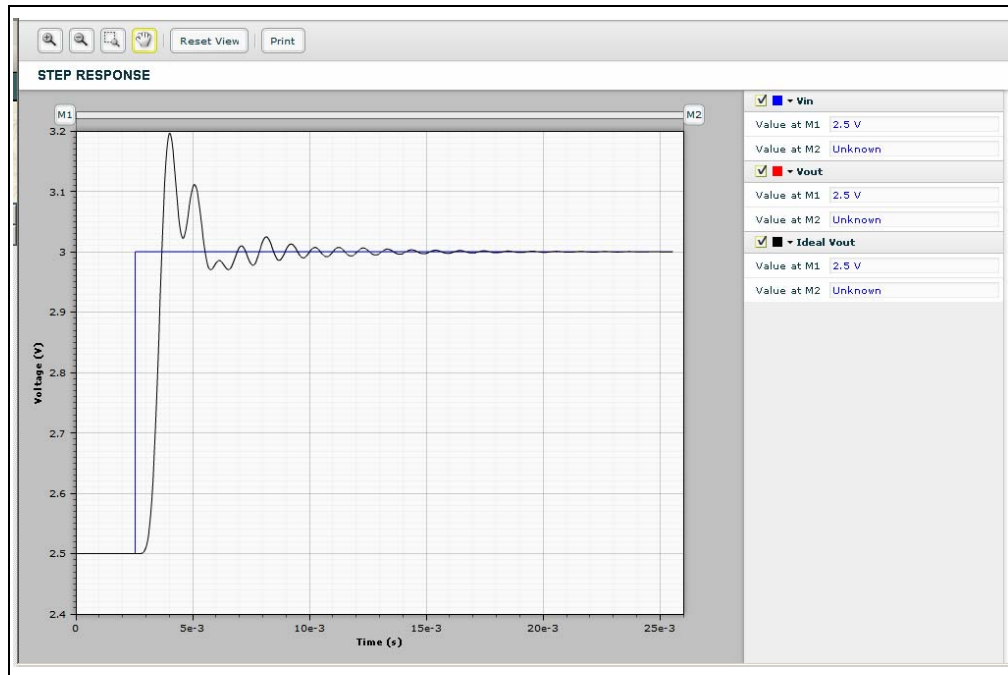

FIGURE B-9: Step Response with Chebyshev Approximation.
- More overshoot and ringing in the step response than Butterworth and Bessel (Figure B-9)
The step response of the 6th order Low-pass filters with Chebyshev approximation is shown in Figure B-9.